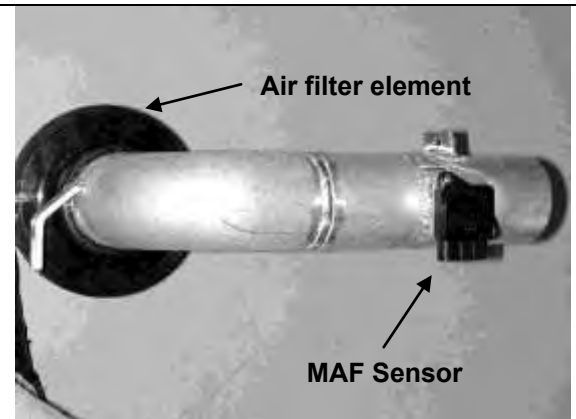

Fig. 10
- g. Install the filter on the end farther from the MAF sensor. Leave the hose clamp loose. (Fig. 10)